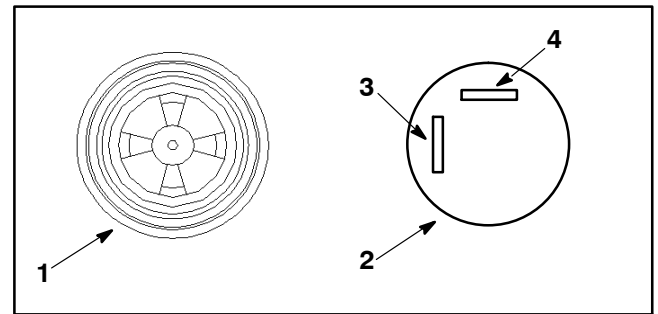

Figure 21
1. Isolate alarm from the circuit. Correctly connect 12VDC source to the terminals (Fig. 21).